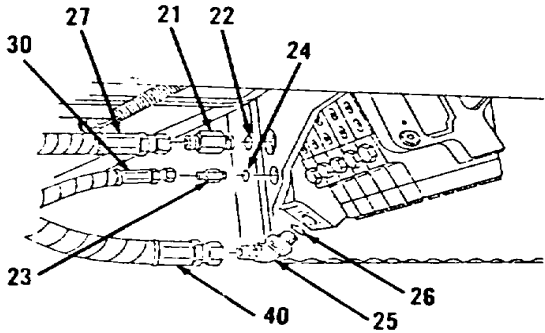

Figure 10-161.
- 12. Install new preformed packing (26) and elbow (25, Figure 10-161).
- 13. Install new preformed packing (24) and connector (23).
- 14. Install new preformed packing (22) and connector (21).